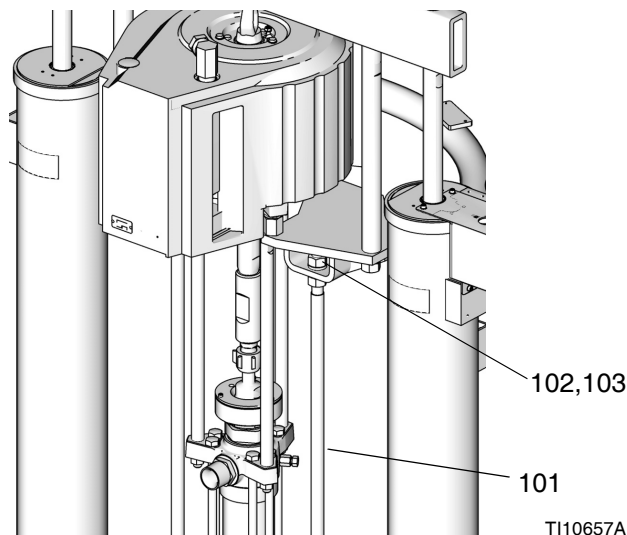

FIG. 21
1. Remove nuts and washers (102, 103) from top of platen lift rods (101). See FIG. 21.
Do not remove or adjust the nuts (102) below the brackets. See Fig. 21. If the nuts are adjusted the pump will not fully engage with the platen or the smaller distance will put stress on the motor, tie rods, and displacement pump.
4. Tighten nuts (103) and washers (102) to top of platen lift rods (101). See FIG. 21.